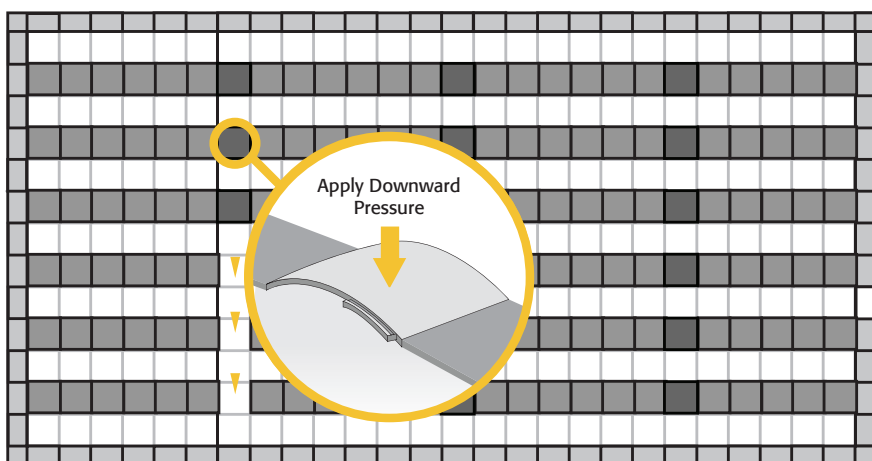

Figure 5: Install compression tile
- Begin installing the tiles in the empty space located between the 6 tile increments. These tiles represent the compression tiles and will need to be compressed into a space smaller than the tile **(Fig. 5)**.